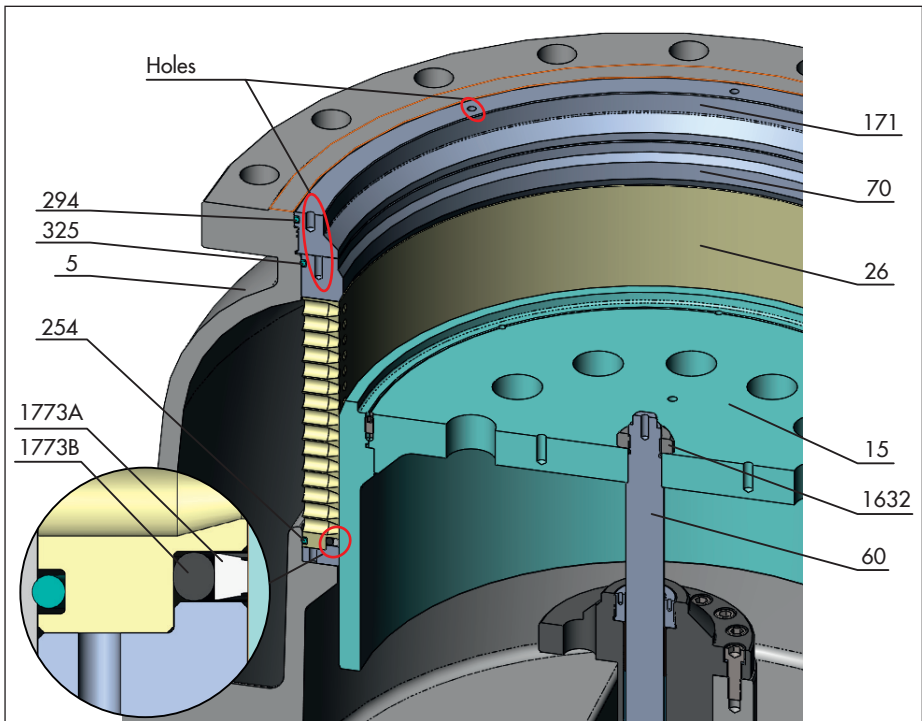

Fig. 9-3: Trim
See Fig. 9-3
6. Remove the flat plug (15) from the plug stem (60). To do this, use the threaded holes on the front face of the flat plug (15).
7. Pull the cage (26) out of the valve body (5). To do this, use the extraction threaded holes on the front face of the cage (26).
8. Replace the gaskets (254, 1773A and 1773B) on the cage (26) with new ones. Observe the proper sequence and alignment of the gaskets (see detailed view in Fig. 9-3). During this process, clean the contact surfaces and apply lubricant to the new gaskets.
9. Reinsert the cage (26) in the upright position back into the valve body (5) and place it onto the balancing cylinder (931).
10. Reinsert the flat plug (15) back into the valve body and place it onto the plug stem (60).
11. Replace the gasket (325) of the seat ring (70) with a new one. During this process, clean the contact surfaces and apply lubricant to the new gasket.